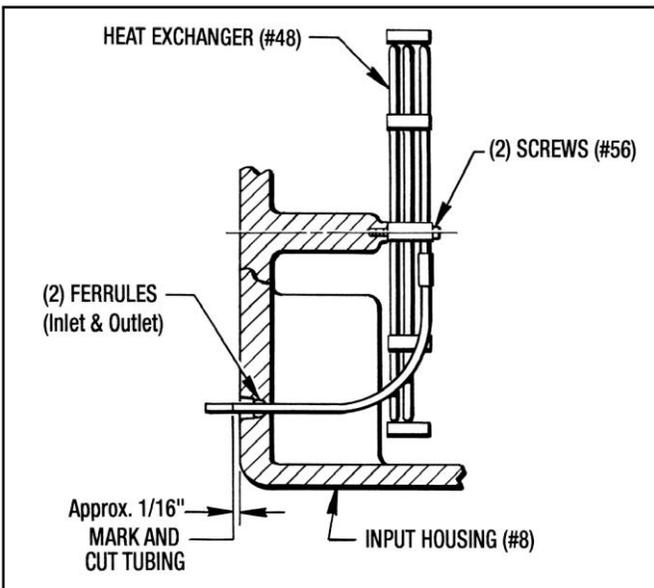

Figure 9.3 - Installing Water Cooled Heat Exchanger
1. Guide the Heat Exchanger (#48) into the Input Housing, making sure that the tube ends project out the (2) holes in the rear face of the Housing. Attach with (2) Screws (#56).
2. Mark the tubing approximately 1/16" beyond the face of the housing. (See Figure 9.3).
4. Reinstall the Heat Exchanger back into the Housing. Apply **Loctite #271** to the tubing O.D. Then place the (2) Compression Fittings with Ferrules (#71) on the tubing. (See Figure 9.3).